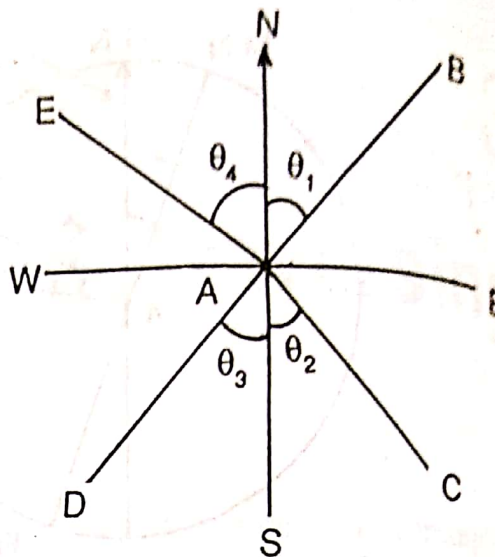

Fig. 3.3
**(b) Quadrantal Bearing (QB)** The magnetic bearing of a line measured clockwise or counterclockwise from the North Pole or South Pole (whichever is nearer the line) towards the East or West, is known as the 'quadrantal bearing' of the line. This system consists of four quadrants—NE, SE, SW and NW. The value of a quadrantal bearing lies between  $0^\circ$  and  $90^\circ$ , but the quadrants should always be mentioned. Quadrantal bearings are obtained by the surveyor's compass (Fig. 3.3).
**6. Reduced bearing (RB)** When the whole circle bearing of a line is converted to quadrantal bearing, it is termed the 'reduced bearing'. Thus, the reduced bearing is similar to the quadrantal bearing. Its value lies between  $0^\circ$  and  $90^\circ$ , but the quadrants should be mentioned for proper designation.